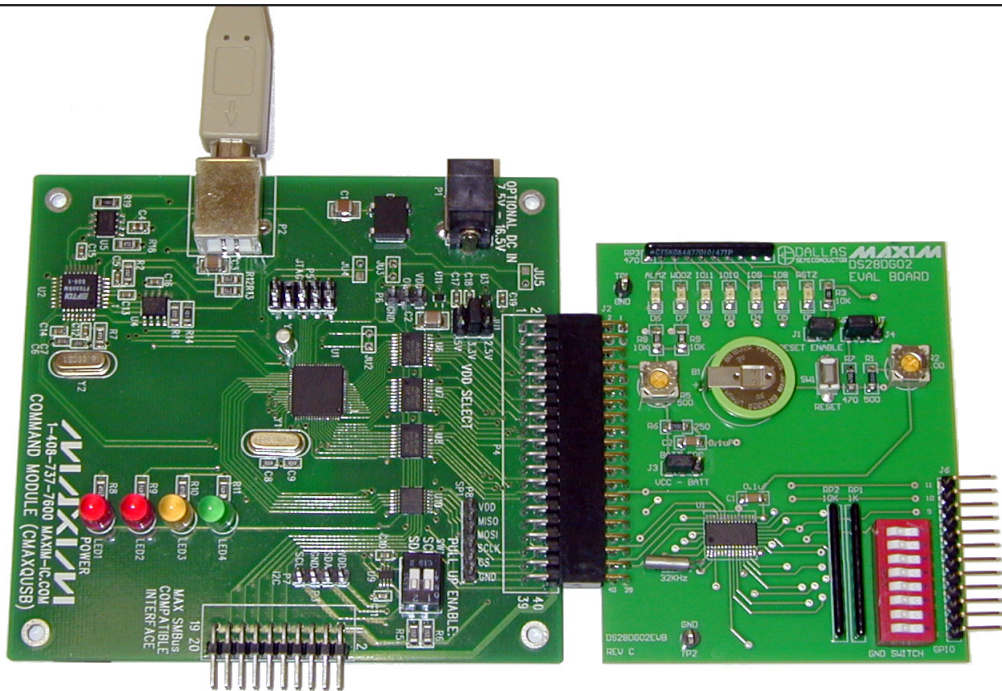

Figure 2. DS28DG02 EV Board Connected to CMAXQUSB
- Connect the EV board to the CMAXQUSB board with the 40-pin connector at location P4 (the SPI pins). See Figure 2 for proper EV board orientation (component side up) when connecting the EV board to the CMAXQUSB board.